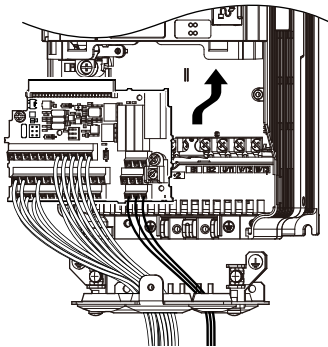

Figure 7.71 Install the Terminal Board
1. After wiring the main circuit, connect the terminal block to the drive as shown in Figure 7.71. Use the installation screw (M3: 0.49 - 0.73 N·m) to fasten the terminal block into place.